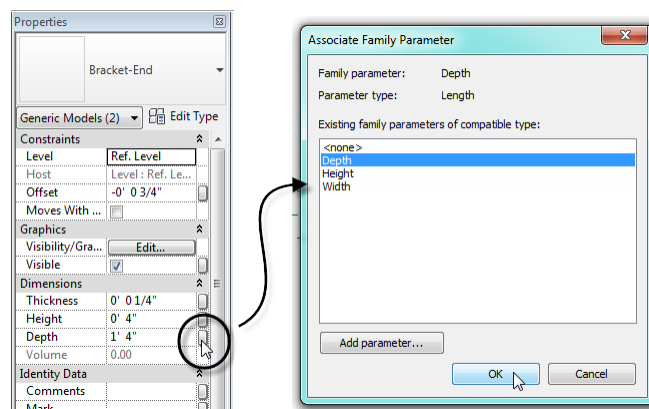

Figure 26
3. In the “Associate Family Parameter” dialog, choose **Depth** and then click OK (see Figure 26).